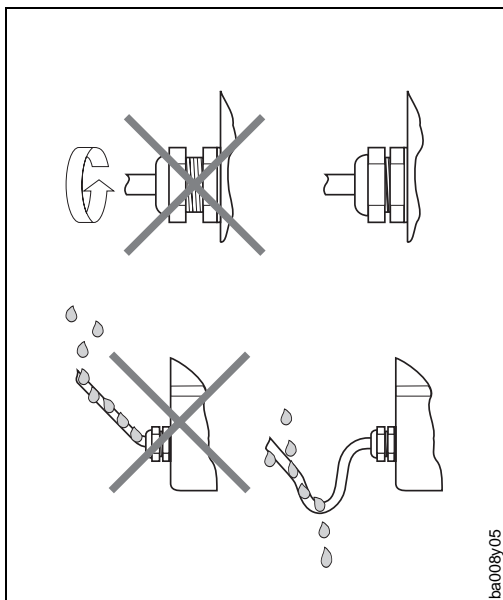

Fig. 5
- Tighten the cable entry (see Fig. 5).
- Loop the cable before inserting. This prevents moisture from penetrating the cable entry (see Fig. 5).